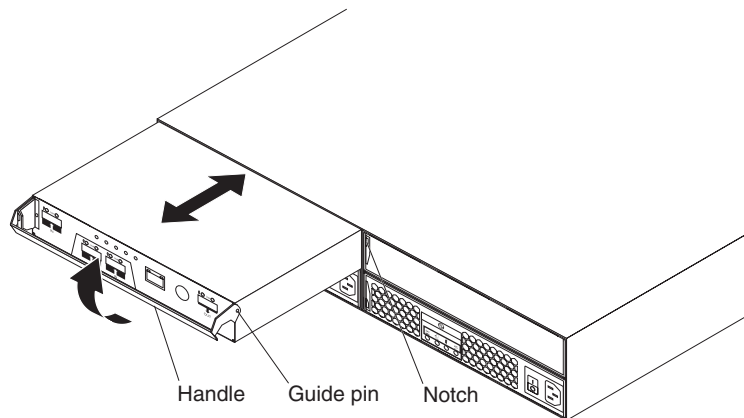

Figure 39. Installing a controller
- b. Slowly pull the handle away from the chassis to remove the filler panel from the bay, as shown in Figure 39.
- b. Make sure that the guide pins on the side of the controller fit into the notches on the DS3200 chassis. See Figure 39.